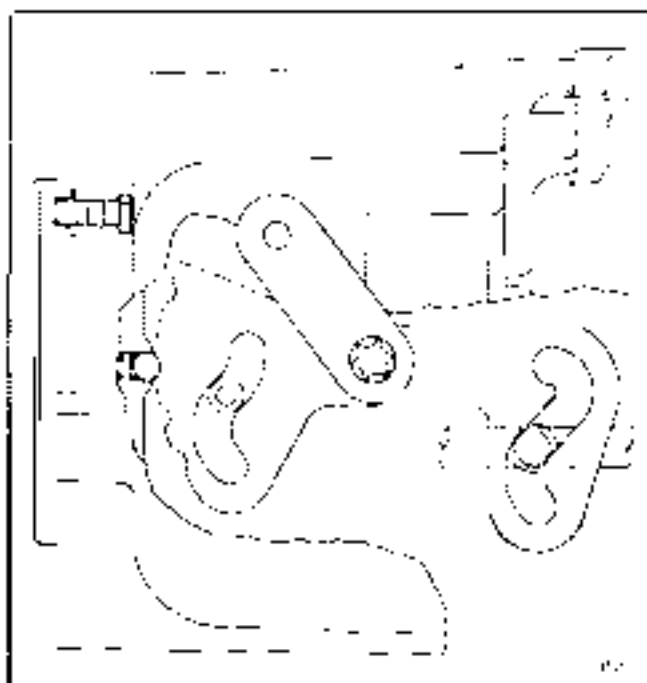

Figure 5-10. Shift Lever Assembly in Neutral Position
1. Input shaft (63) must go through thrust washer (74) and bushing in transfer case assembly (86).
2. End of lockup rail (54) must enter hole in transfer case assembly (86).
3. Cam roller (50) must rest in cradle provided in transfer case assembly (86).
c. Install bearing (48) in groove in shaft of shift lever assembly (47).
d. Holding shift lever assembly (47) in neutral position (see figure 5-10) insert through transfer case assembly (86) and splines of shift cam (51). Install clip ring (45) in groove in shift lever assembly to retain it on shift cam.
e. Apply Loctite 242 to threads of set screw (46) and install in transfer case assembly (86). Torque set screw to 5.0-7.0 lb ft (6.8-9.5 Nm).